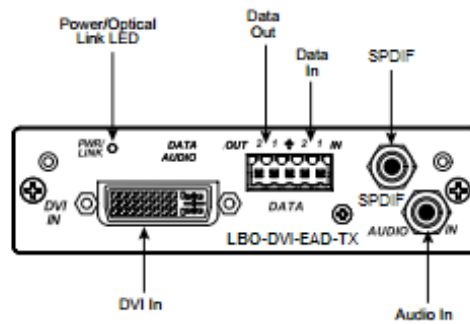

**Figure 1-1**
The LBO-DVI-EAD Series is a high performance, low cost, miniature, Link Bridge™ Fiber Optic DVI Transmission System. It carries one (1) unidirectional DVI video, one (1) uni-directional stereo audio & digital audio, and two (2) RS-232 through one multimode fiber. This unique fiber optic transmission system lets your digital flat panel display extend up to 400m at WUXGA (1920x1200 @ 60Hz) or 720p/1080i/1080p HDTV video resolution. No user adjustment is required for the LBO-DVI-EAD system due to the use of advanced digital fiber optic transmission system technology with zero compression and zero bit reduction. This allows for a quick and easy setup, offering trouble-free operation for many years to come. In addition, the LBO-DVI-EAD transmitter (or receiver) is compatible with our LBO Series receiver (or transmitter). This makes both fiber transmission and HDMI/DVI/VGA/YPbPr/SV/CV/SDI conversion in one single system setup. The LBO-DVI-EAD comes with either a standalone miniature enclosure or a Decora wall-plate packaging. The units are easily monitored by power and link LED indicators. Figures 1-1, 1-2, 1-3, and 1-4 illustrate the front and rear panels of the LBO-DVI-EAD-T Stand-alone and Wall Plate units.